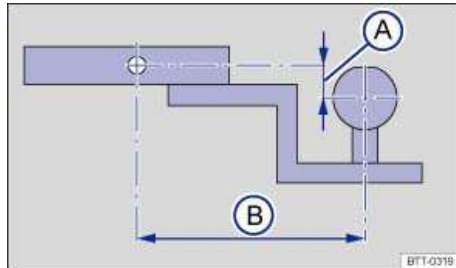

Fig. 111 Dimensions of the ball mount support.
The receiver used requires both a ball mount and a ball that meet special requirements regarding geometry and size. This applies to both the height of the ball above the surface where it attaches ⇒ fig. 111 (A), and the pin-to-ball distance (B).